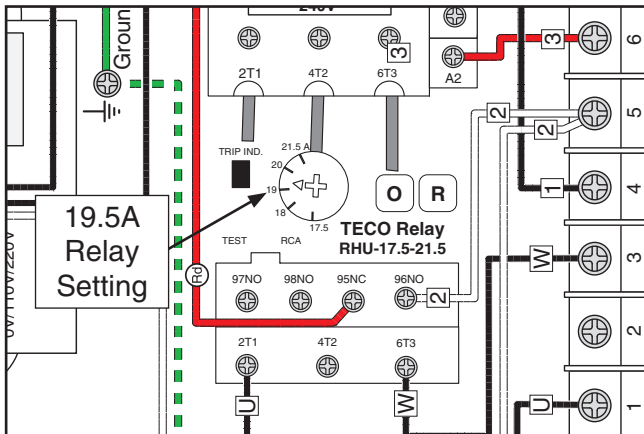

Figure 16. Model G0807 overload relay set to 19.5A.
- Turn the dial on the overload relay to 19.5A for 110V (see **Figure 16**).